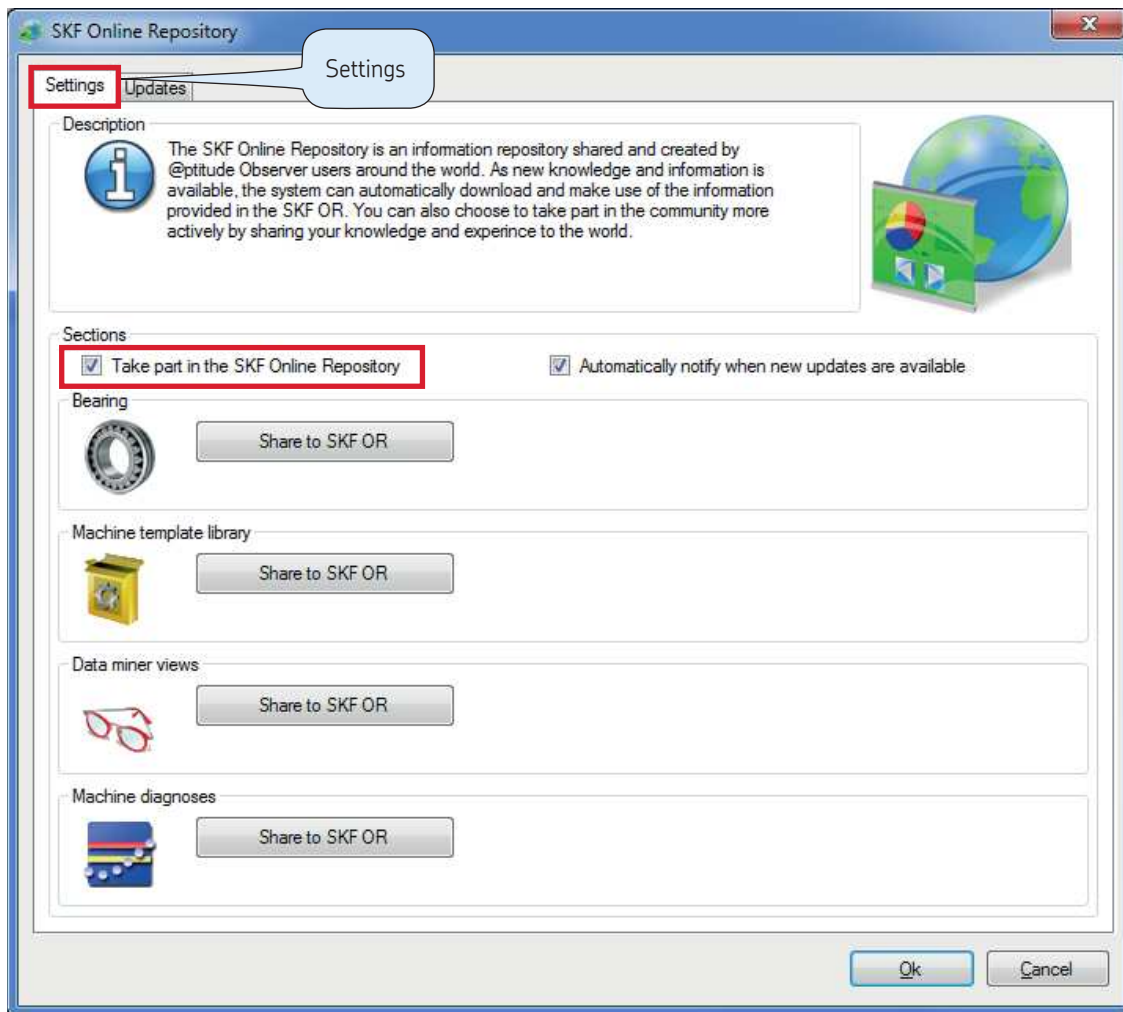
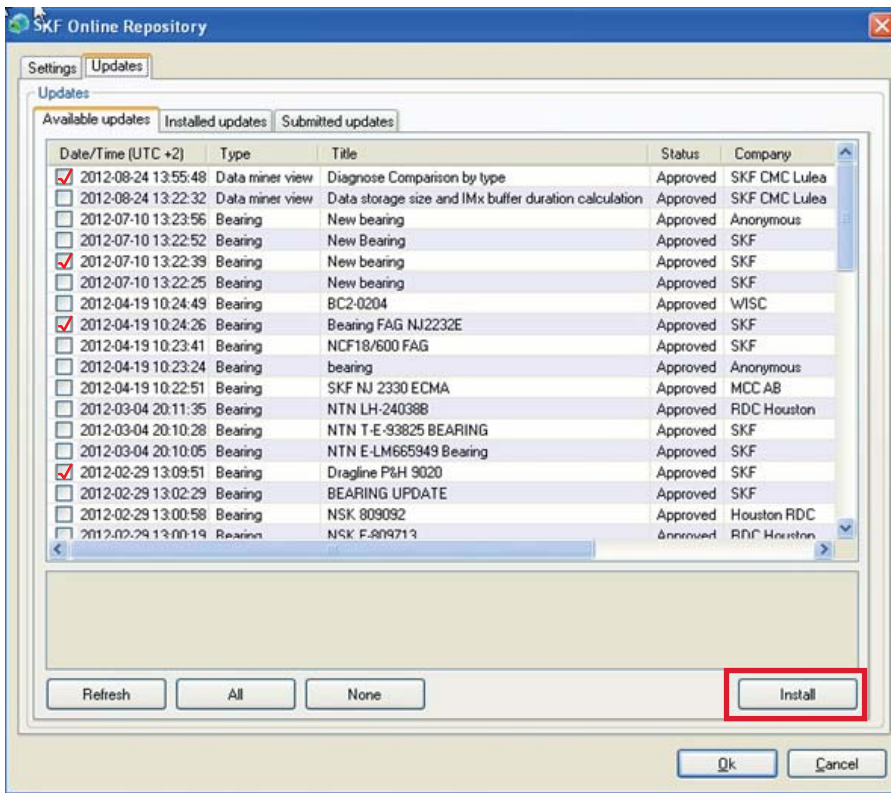

Fig. 17. SKF @ptitude Observer Online Repository main window.
Fig. 18. An example of available updates to download from the SKF OR.
- **Take part in the SKF Online Repository** – Configures the system to be able to send and receive data from the SKF OR (if checked), see "Sections" in **fig. 17**.
- **Receive automatic notifications when new updates are available** – Enables the system to automatically check the SKF OR if there are any new updates available when the SKF @ptitude Observer system starts, see "Sections" in **fig. 17**. **Fig. 18** shows available updates to download. Check the updates that you would like to install in **fig. 18** and click the **Install** button.